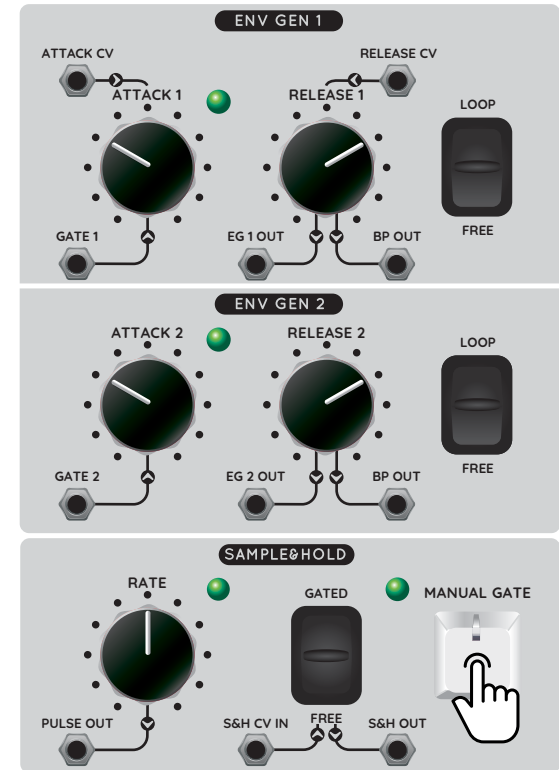

Figure 33
Set the ATTACK and DECAY knobs on the Bullfrog as shown in figure 33 and flip both switches to the FREE position. Now, push and hold the MANUAL GATE button for a second or so. Notice how the green LEDs gradually go on, stay bright and go off as you release the MANUAL GATE button. The LED indicates the attack (A), sustain (S) and release (R) stages of the envelope. Try different settings of the ATTACK and RELEASE knobs with the manual gate!
Now, flip both switches to the LOOP position. In this mode the envelope generators go into a looping mode – they automatically proceed through the attack and release stages where the time of each stage depends on the settings of the ATTACK and RELEASE knobs (figure 33). Try different settings and by observing the LED status, note the maximum time of each stage! Notice that in the LOOP mode there's no sustain stage. This is because the EGs trigger themselves – there's no external gate involved. But, as you push the MANUAL GATE button, the looping is terminated for a time, when gate is on, and the envelope generators go into the sustain stage.